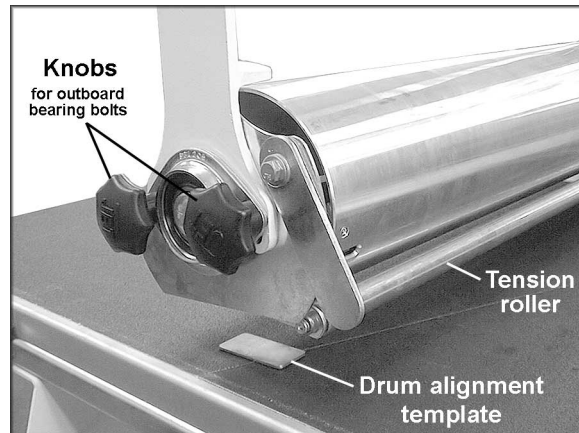

Figure 28
3. Because the tension roller suspension assembly (Figure 28) mounts to the drum bearing bolts which are used to adjust the drum, it is necessary to align the sanding drum and tension rollers at the same time. Loosen outboard bearing bolt knobs (Figure 28) and the inboard bearing bolts.
4. With all four bearing bolts loosened, note that the drum will adjust about 1/2" on each end. Position drum alignment templates (Figure 28) on the conveyor and below the drum with one template at each end of the drum.